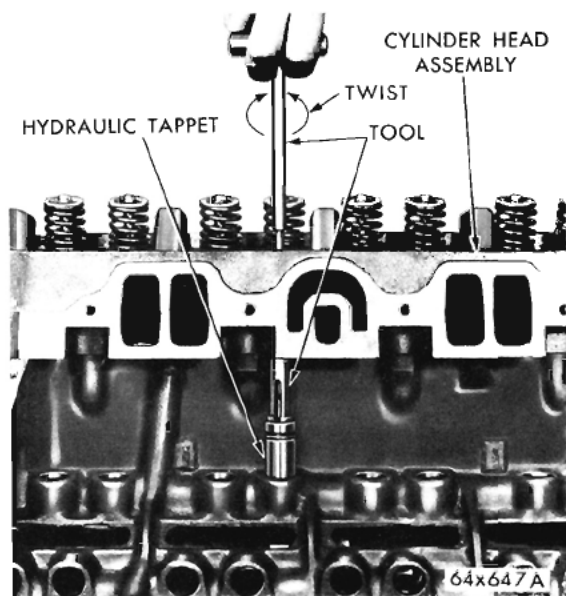

Fig. 80—Removing Tappet Using Tool C-3661
(1) Tappets can be removed without removing the intake manifold or cylinder heads by following this recommended procedure: Remove the cylinder head covers.
(2) Remove the rocker arms and shaft assembly.
(3) Remove the push rods and place them in their respective holes in Tool C-3068.
(4) Slide the puller Tool C-3661 through the push rod opening in the cylinder head and seat the tool firmly in the head of the tappet.
(5) Pull the tappet out of the bore with a twisting motion, as shown in Figure 80.